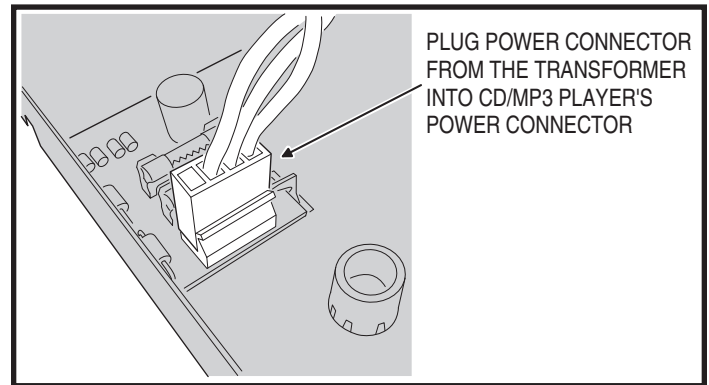

Figure 26. CD/MP3 Player Power Connection
11. Plug the connector from the TE2D power transformer in the wall housing to the CD/MP3 Player's POWER connector (see Figure 26).